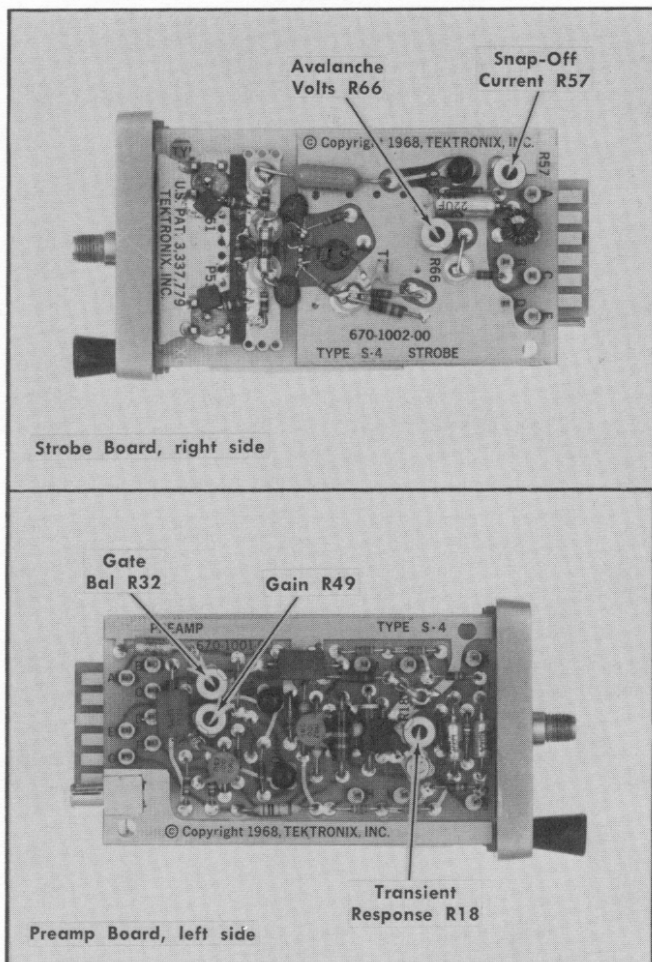

Fig. 5-4. Type S-4 internal control locations.
c. Set Avalanche Volts control R66 (see Fig. 5-4) and Snap-Off Current control R57 to midrange.